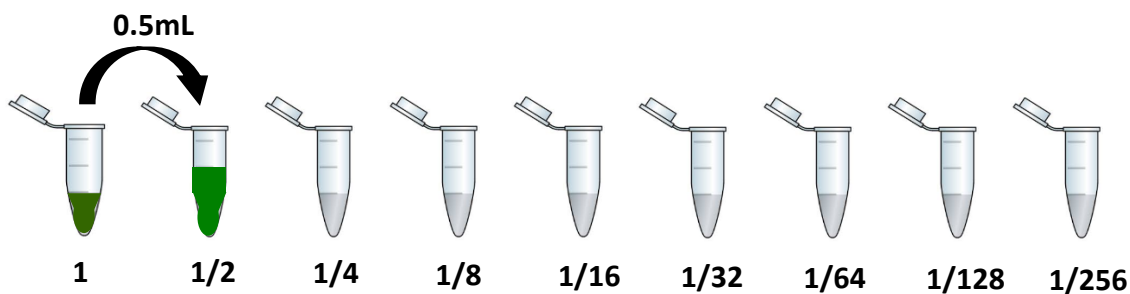

Fig. 2
5. To make your first serial dilution, use a p1000 micropipette to remove 0.5mL of the dark green solution in tube #1. Add the 0.5mL you have removed from tube #1 and mix it with the 0.5mL of water in the tube marked $1/2$. You now have 1mL in tube $1/2$ and this solution is a slightly lighter green than the solution in tube #1 (See Fig. 2).